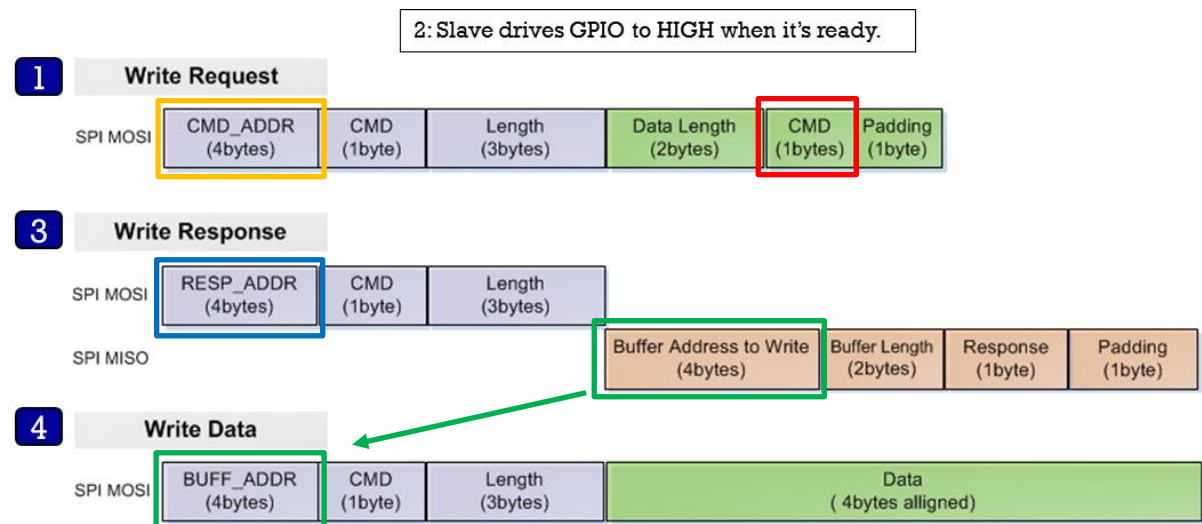

Figure 3: Structure for Write Operation
1. The Host sends a WRITE_REQ command (0x80, red rectangle in Figure 3) to the General Command address (0x50080254).(yellow rectangle in Figure 3).
3. The Host reads the Write Response message by Response Command address (0x50080258, blue rectangle in Figure 3) and parse it using struct _st_host_response (see Table 4).
4. The Host sends data to address (BUFF_ADDR) which is received from the Slave in the Write Response message.(Green rectangle in Figure 3).